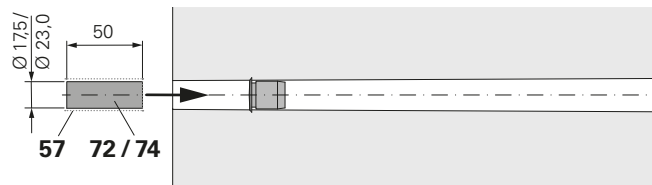

Fig. A5.02
3. Coat Concrete Plug MX15 50mm Type 1 or Concrete Plug MX18 50mm Type 3 (**72 / 74**) on one end face and the outer surface with ready-to-use Repoxal adhesive or Sealing Adhesive-3 (**57**) and push into the tie hole from the smaller side of the tie hole. Make sure that the adhesive-coated end face is pushed onto the flat surface of the plug. (Fig. A5.02)